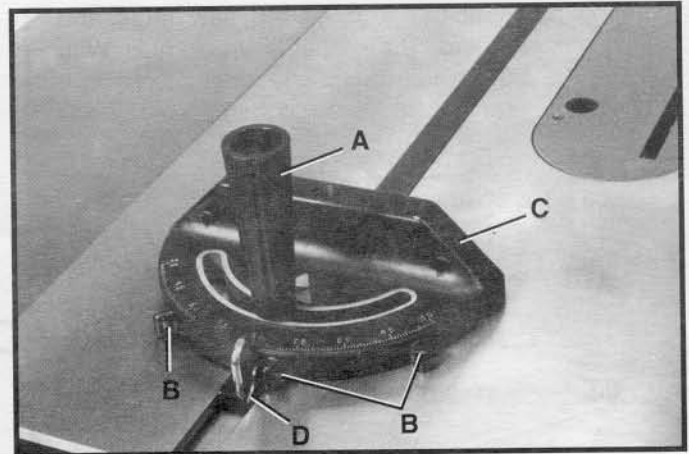

Fig. 53
The miter gage is equipped with adjustable index stops at 90 degrees and 45 degrees right and left. Adjustment to the index stops can be made by tightening or loosening the three adjusting screws (B) Fig. 53.
To rotate the miter gage, loosen lock knob (A) Fig. 53, and move the body of the miter gage (C), to the desired angle.
The miter gage body will stop at 90 degrees and 45 degrees both right and left. To rotate the miter gage body past these points, the stop link (D) Fig. 53, must be moved up and out of the way.